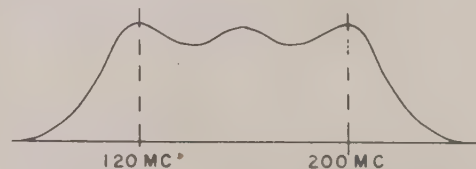

Figure 8. L1309 Response Curve
e. Adjust L1309 to obtain an overall response as shown in figure 8.